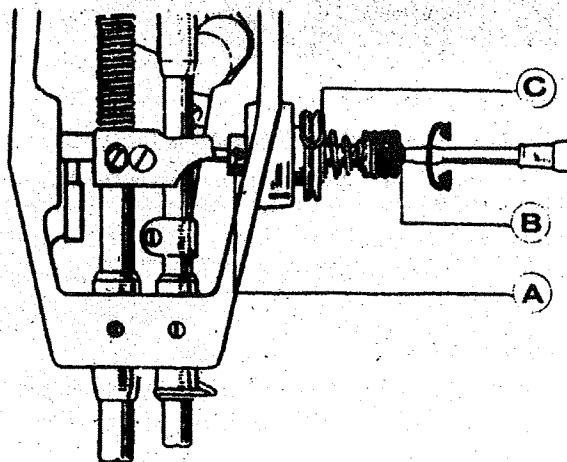

Fig. 26
(1) Adjusting the thread take-up spring tension (Fig. 26)